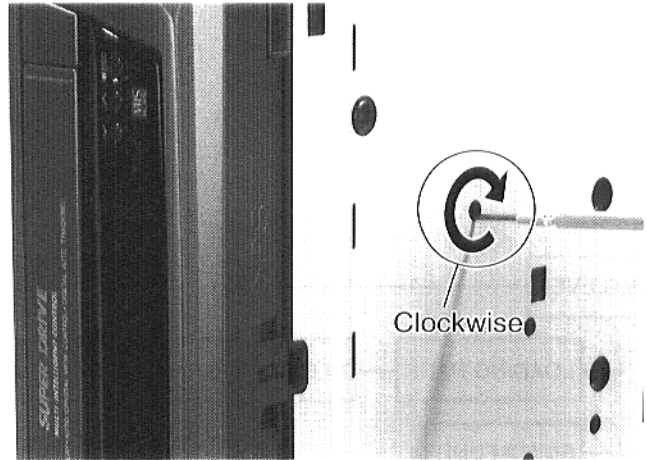

Fig. A2
(3) Rotate the Pole of Capstan motor to the clockwise from the bottom in order to remove the tape slack (Fig. A2).